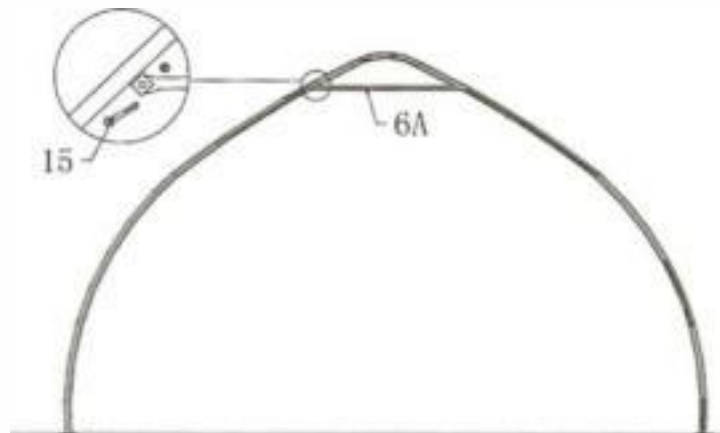

Figure 4
2. As Figure 4 shown to fix Roof Support Tube (No.6A) by using Bolt M1 Ox20mm (No.15).